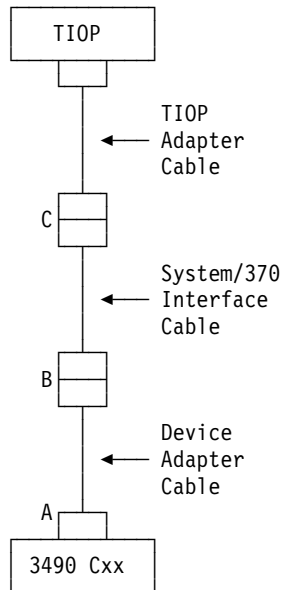

Figure 19. Tape Subsystem Cable Connections
28. The tape subsystem cables are connected as shown in Figure 19 on page 487.
- a. Disconnect the device adapter cable from the I/O device control unit (at A in Figure 19).
- b. Disconnect the System/370 interface cable from the device adapter cable (at **B** in Figure 19 on page 487).
- b. Disconnect the TIOP adapter cable from the System/370 interface cable (at C in Figure 19 on page 487).